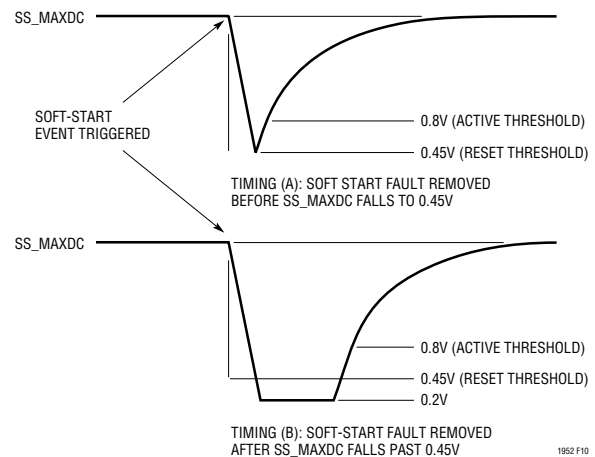

Figure 10. Soft-Start Timing
The LT1952/LT1952-1 have built-in soft-start capability to provide low stress controlled startup from a list of fault conditions that can occur in the application (see Figure 1 and Figure 10). The LT1952/LT1952-1 provide true PWM soft-start by using the  $SS\_MAXDC$  pin to control soft-start timing. The proportional relationship between  $SS\_MAXDC$  voltage and switch maximum duty cycle clamp allows the  $SS\_MAXDC$  pin to slowly ramp output voltage by ramping the maximum switch duty cycle clamp — until switch duty cycle clamp seamlessly meets the natural duty cycle of the converter. A capacitor  $C_{SS}$  on the  $SS\_MAXDC$  pin and the
It can be seen in Figure 10 that two types of discharge can occur for the  $SS_{MAXDC}$  pin. In timing (A) the fault that caused the soft-start event has been removed before  $SS_{MAXDC}$  falls to 0.45V. This means the soft-start latch will be reset when  $SS_{MAXDC}$  falls to 0.45V and  $SS_{MAXDC}$  will begin charging. In timing (B), the fault that caused the soft-start event is not removed until some time after  $SS_{MAXDC}$  has fallen past 0.45V. The  $SS_{MAXDC}$  pin continues to discharge to 0.2V and remains low until all faults are removed.